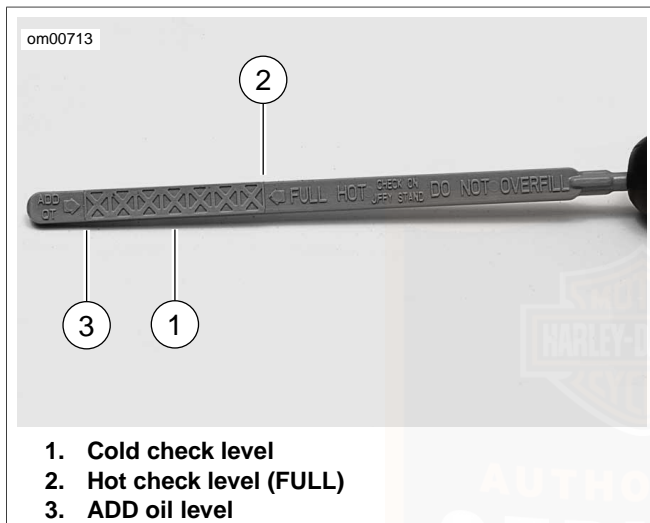

Figure 33. Engine Oil Level: Dyna Models
2. See Figure 33. Remove the dipstick and note the level of the oil. Oil level should register between the two marks on the dipstick.